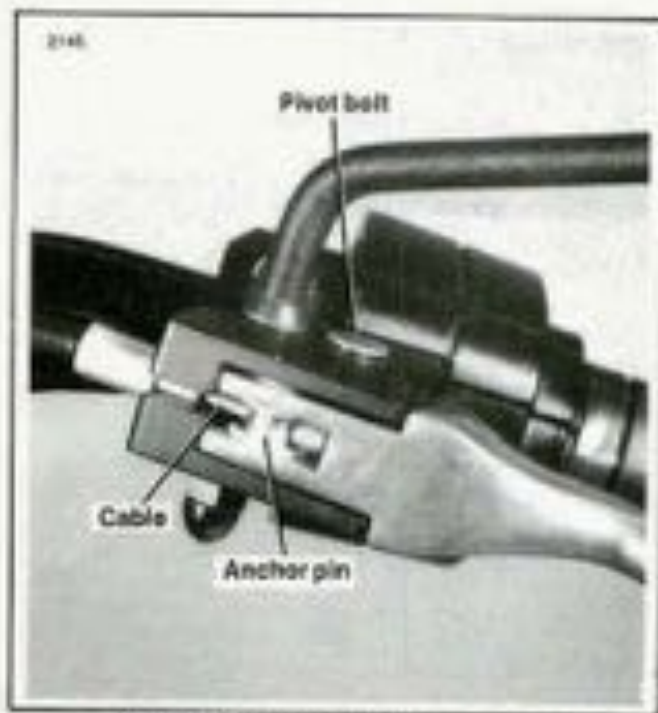

Figure 2-94. Clutch Cable Installation
3. Loosen the locknut (3) and turn the cable housing adjuster (4) out of the bracket (5). Remove the cable from the clutch release lever.
4. See Figure 2-94. Remove the clutch cable and anchor pin from the hand lever.
1. See Figure 2-94. Install the clutch cable and anchor pin to the clutch hand lever. The slot in the pin must face in towards the hand lever.